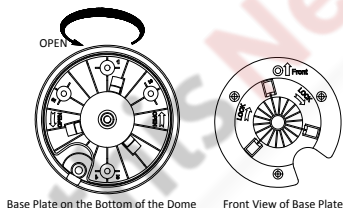
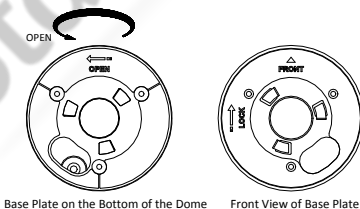

Figure 2-21 Base Plate for DE2xxx Series PTZ Camera
Figure 2-22 Base Plate for DE2xxxI Series (IR) PTZ Camera
1. Rotate the base plate counterclockwise to separate it from the PTZ camera, as shown in Figure 2-21 and Figure 2-22.